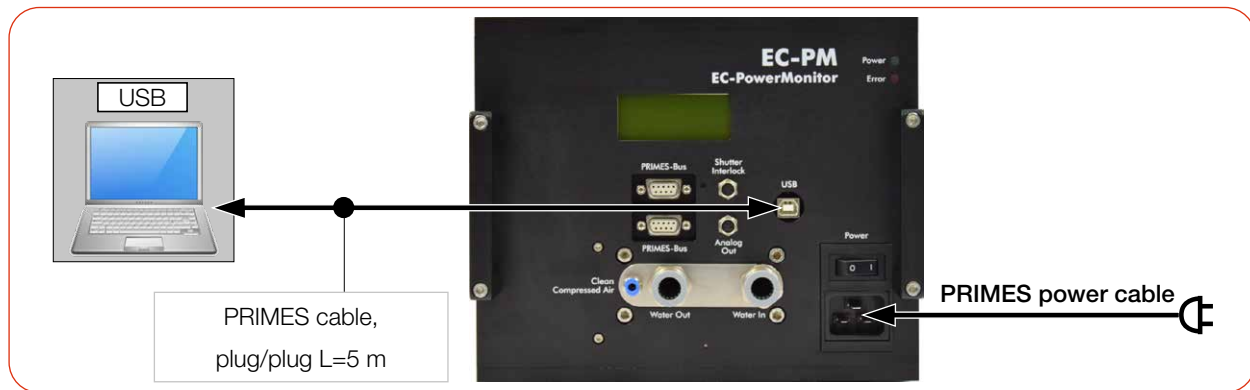

Fig. 7.5: Power supply via PRIMES power cable, data transfer via USB
- Connect the cables according to Fig. 7.5 on page 28.